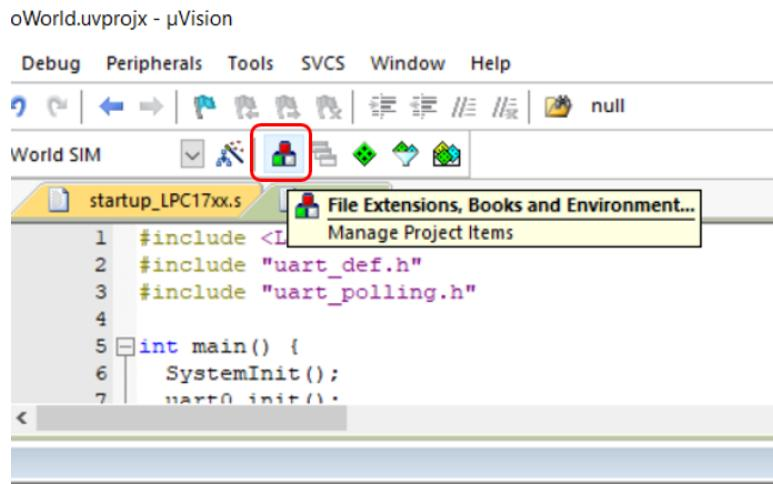

Figure 8.23: Keil IDE: Manage Project Items Button
1. Press the Managing Project Item button (see Figure 8.23).